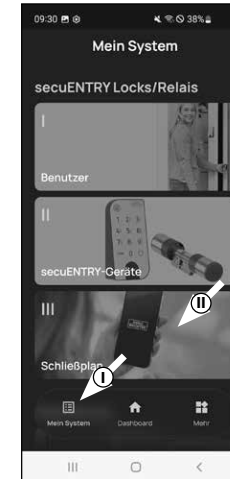

Fig. 1
- 2 Open the “My System” menu (I) (Fig. 1).
- 3 Tap on the fourth menu item “III - Locking plan” (Fig. 1).